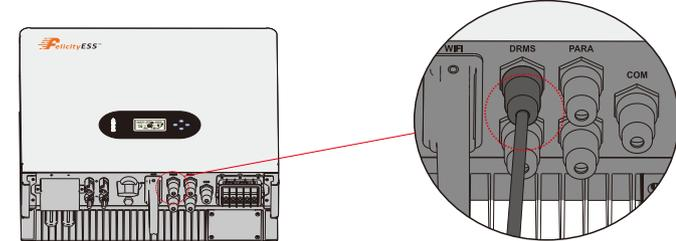

Figure 4.5-5 RJ45 interface
**Step 4.** Connect RJ45 terminal to the right position onto the inverter.See Figure 4.5-5.